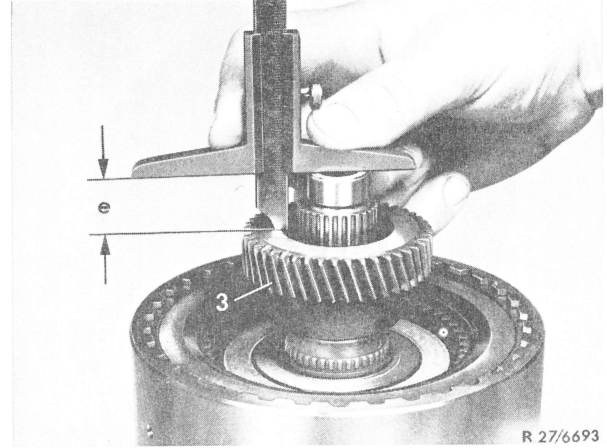

Fig. 27
41 Measure distance from face of intermediate shaft to face of sun gear (3) and determine dimension "e" (Fig. 27).